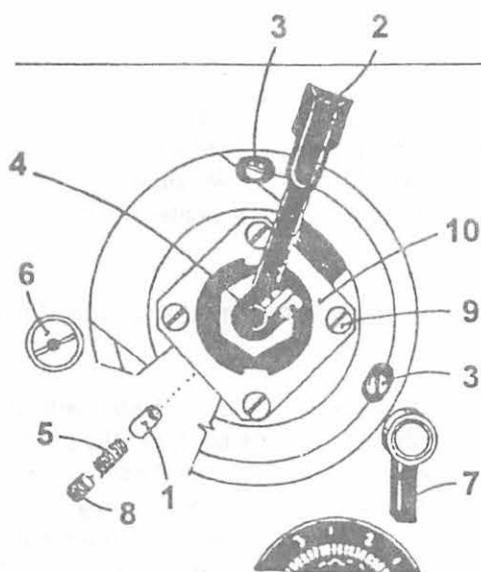
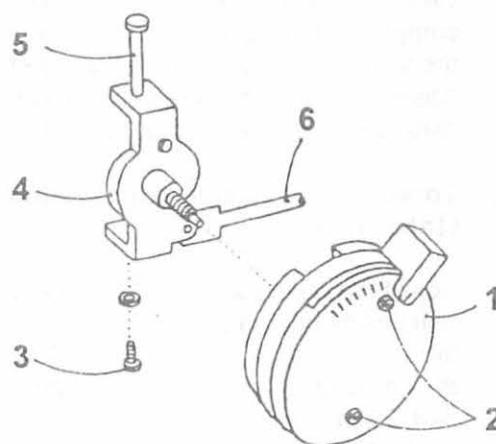

Fig. 12
Fig. 13
**19. To adjust the control force required for stepless adjustment of the zigzag stitch width (Figs. 12, 13)**
For the stepless tilting of the zigzag stitch bracket, the inlay (10, Fig. 12) of the body of the zigzag stitch mechanism contains the braking roller (1) with the spring (5) and with the adjustment screw (8). Turning the screw to the right increases the pressure exerted on the roller and, consequently, the force required to adjust the stitch width. A mechanism actuated by the lever (7) serving to fix the adjusted stitch width must be turned to the left prior to proceeding to the stitch width adjustment which is carried out by the lever (2) whose extreme left position, defined by a stop, produces the zero zigzag stitch width that can be increased up to 10 mm by displacing the lever to the right. The number marking on the cover (1, Fig. 13) shows the approximative stitch width value at each lever position. To adjust the control force, first take the complete zigzag stitch mechanism out of the machine arm column. For this purpose, screw out the two screws (2) from the body of the mechanism, remove the cover (1), screw out the three attachment screws (3, Fig. 12) from the body of the zigzag stitch mechanism, then screw out the securing screw (3, Fig. 13) on the pin (5), remove the pin from the guiding (4), loosen the fixing lever (7, Fig. 12) and take the pin (6, Fig. 13) out of engagement, thus releasing the body of the zigzag stitch mechanism that can be then taken out of the machine arm. For the assembly, proceed inversely.
The tooth play of the zigzag stitch transmission mechanism is actuated by the eccentric pin (6, Fig. 12). To adjust the tooth play, first screw out the four attachment screws (6, Fig. 11), remove the upper cover (1), and loosen the screw (5) located in the lug of the machine arm. By turning then the eccentric pin (6, Fig. 12) adjust the tooth play of the zigzag transmission mechanism, i. e., between the complete cam and the gear wheel (3, Fig. 11) mounted on the upper shaft (4), then lock the adjusted position by thoroughly tightening the screw (5).